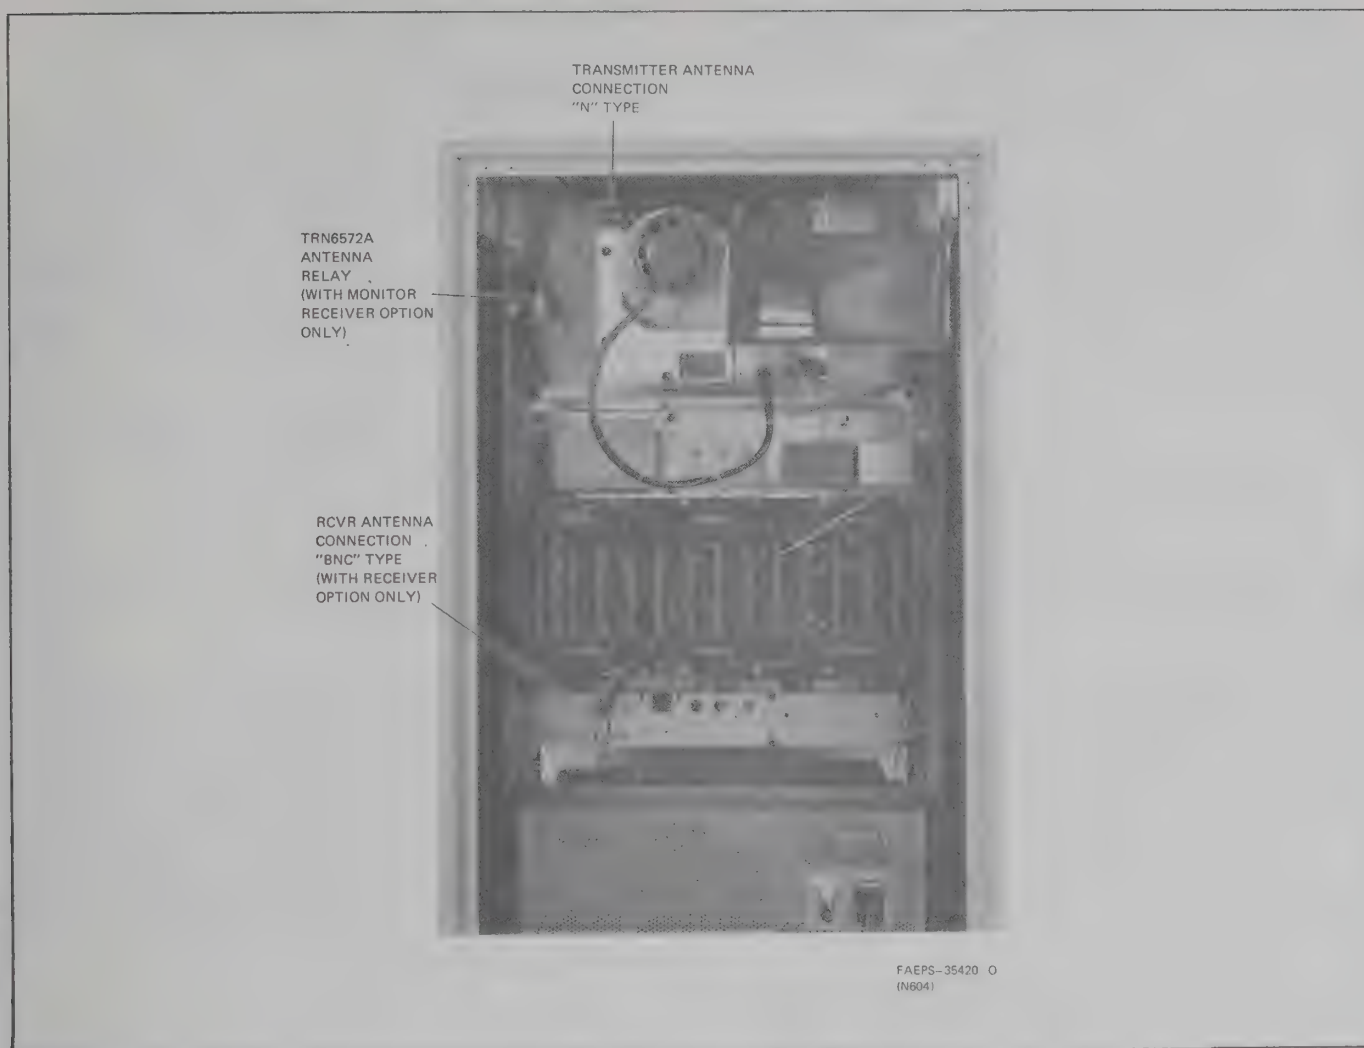

Figure 1. Antenna Connection Locations
7.1.3 For *PURC* Paging Base Stations, the antenna coaxial cable connects to the antenna network output with a type N connector. For *PURC* Paging Base Stations with the link receiver option, (without an optional duplexer), two antennas are required, one for the transmitter and one for the receiver. The antenna coaxial cables connect directly to the transmitter and receiver. The transmitter output requires a type N connector at the antenna network output — the receiver input requires a type BNC connector. For *PURC* Paging Base Stations with an optional monitor receiver option, an antenna relay is provided with the station. Only a single antenna is required. Both receiver and transmitter are connected to the antenna relay, which in turn is connected to the antenna. (Refer to Figure 1.)
Step 2. Connect the antenna cable(s) as shown in Figure 1.